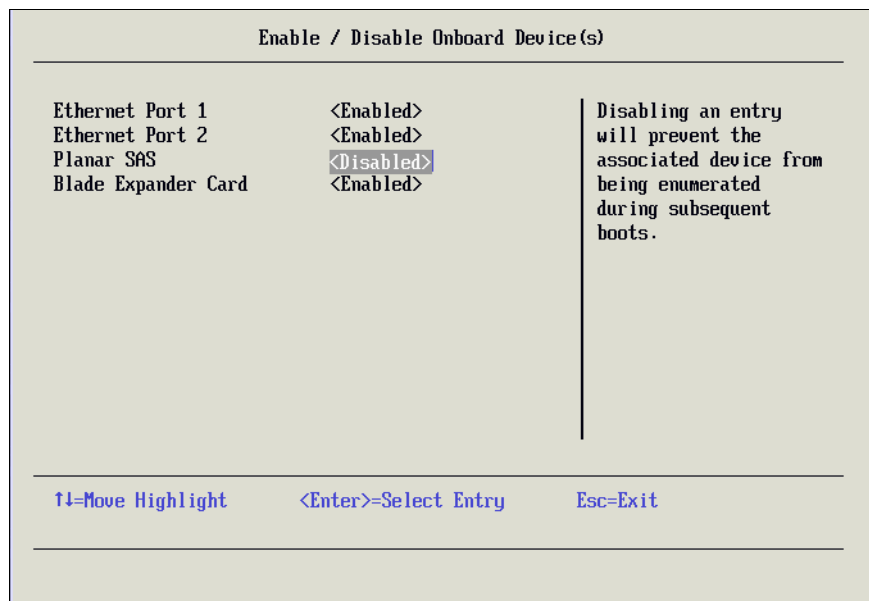

Figure 2-13 Disable onboard SAS controller
3. Select **Planar SAS** and press Enter to enter the edit mode. Then select **Disable** to disable the onboard SAS controller as shown in Figure 2-13. It speeds up the boot process and keeps the system from booting to the onboard in case there are local drives in the system.